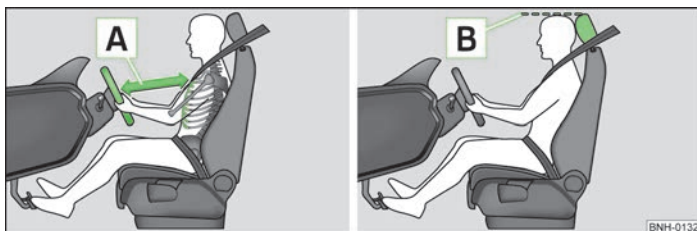

Fig. 76 The correct distance of the driver to the steering wheel/The correct head restraint adjustment
- Adjust the steering wheel so that the distance **A** » Fig. 76 between the steering wheel and your chest is at least 25 cm.
- Adjust the head restraint so that the top edge **B** » Fig. 76 on page 93 » page 93 of the head restraint is at the same level as the upper part of your head¹⁾.
- Adjust the head restraint so that the top edge **B** » Fig. 76 on page 93 » page 93 of the head restraint is at the same level as the upper part of your head.